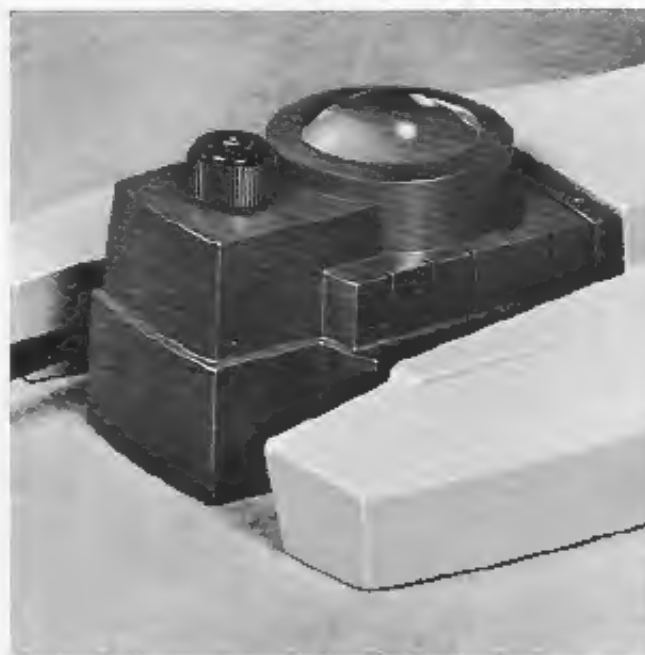

Figure 23. Cat. No. 1034 Illuminator
a. Cat. No. 1034. This illuminator (figure 23) is designed specifically for monocular models. If ordered with the microscope, it comes attached to the base. If ordered separately, it is easily attached by means of the two screws on the under side of the base. It utilizes a 15 watt medium screw base, 115 volt lamp, and plugs directly into a 115 volt AC outlet. A convenient on-off switch is located at the top of the illuminator. The illuminator contains a reflector, blue glass, and spherical condensing lens. It will fill the numerical aperture of all objectives and provide full field illumination of all magnifications, including the 4X scanning lens.